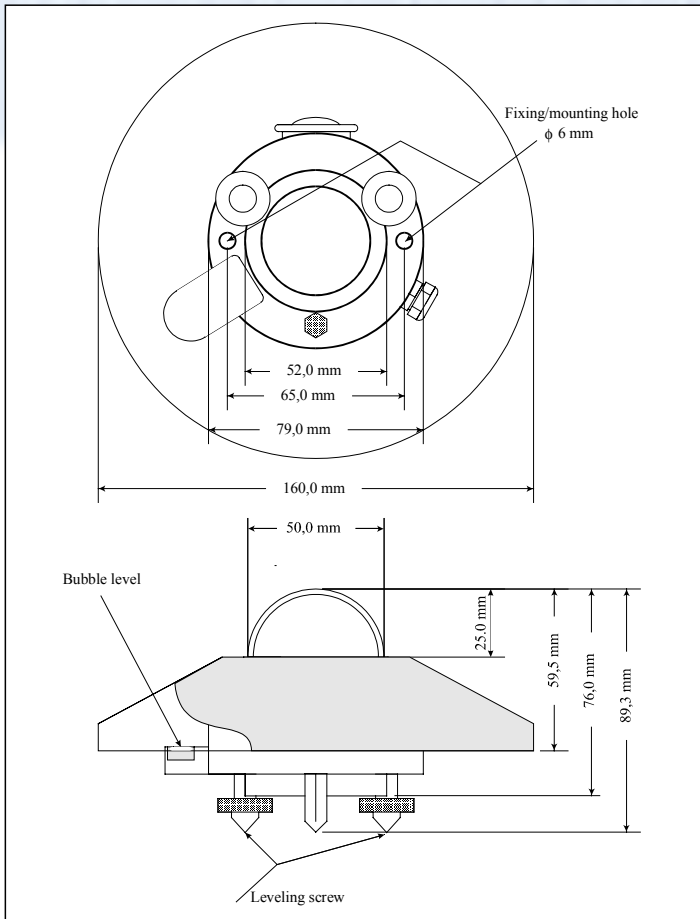

Fig. 4
- For a correct horizontal placing, LP PHOT 02 is provided with a bubble level; inclination adjustment of the luxmeter is made by means of two leveling screws. Use the two 6mm-diameter screw holes with an interaxial distance of 65 mm, to mount the instrument on a plane. To access the holes, remove the shade disk and reposition it after mounting (see fig. 4).
Dimensions:	fig. 4
- The LP UVA 02 radiometer is provided with a spirit level for carrying out an accurate horizontal leveling. The adjustment is made by means of two leveling screws that allow to adjust the radiometer inclination. Use the two 6mm-diameter holes and a 65mm interaxial distance to mount the instrument on a plane. Remove the shade disk to access the holes and reposition it after mounting (see fig. 4).